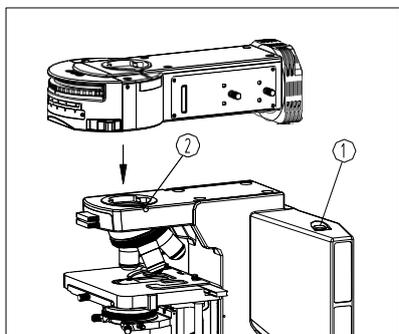

Fig. 1
- (1) Loose the lock-screw ② completely by the M4 inner hexagon spanner ①. (See Fig. 1)
- (2) Match the dovetail interface on the bottom of fluorescence illuminator to the hole of the microscope body on the position of center-right, with a little left inclined and insert it in, then lock the screw ②.